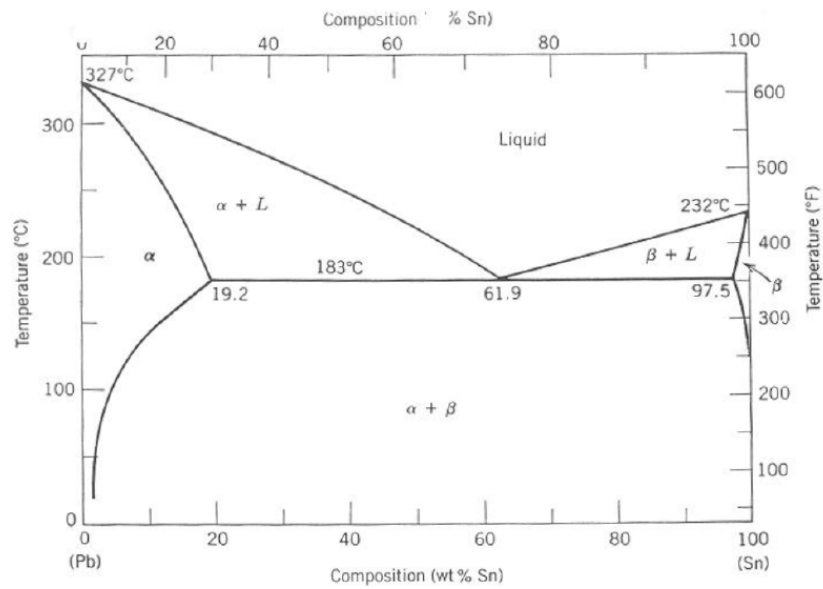

Figure 3.4: Pb-Sn phase diagram.
- 6) Consider the Pb-Sn phase diagram (see Figure 3.4).